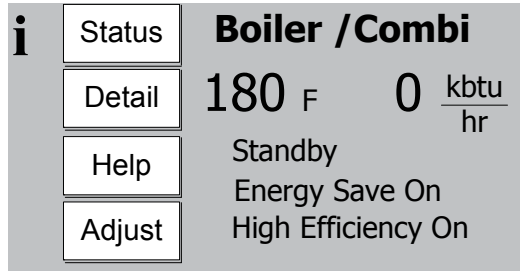

**Figure 12.1: Location of Manual Air Vent**
6. Bleed air from the heat exchanger using the manual air vent in the top left side of the heat exchanger (Figure 12.1). To do this install a piece of 1/4" ID clear tubing over the hose barb and route the tubing to a location where water will not damage controls or nearby construction. Turn vent counter clockwise and allow heat exchanger to vent until a steady stream of water is observed. Close vent and remove hose.
**WARNING** Improper gas valve adjustments can result in unreliable operation, substantial property damage, personal injury or loss of life due to carbon monoxide (CO) poisoning. Observe the following precautions:
17. Perform a check of the ignition safety shut-off device. With the burner firing, carefully unplug the orange flame rod wire at the flame rod using a pair of insulated pliers (Figure 12.1). The burner should shut off immediately.